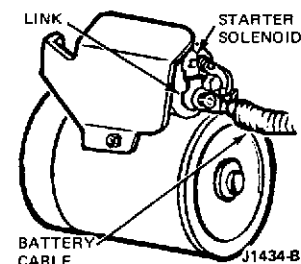

FIG. 8 Starter Cable Connections
3. Connect the cable and wires to the terminals on the solenoid (Figure 8). Tighten the battery cable nut to 45 to 95 in-lb torque.